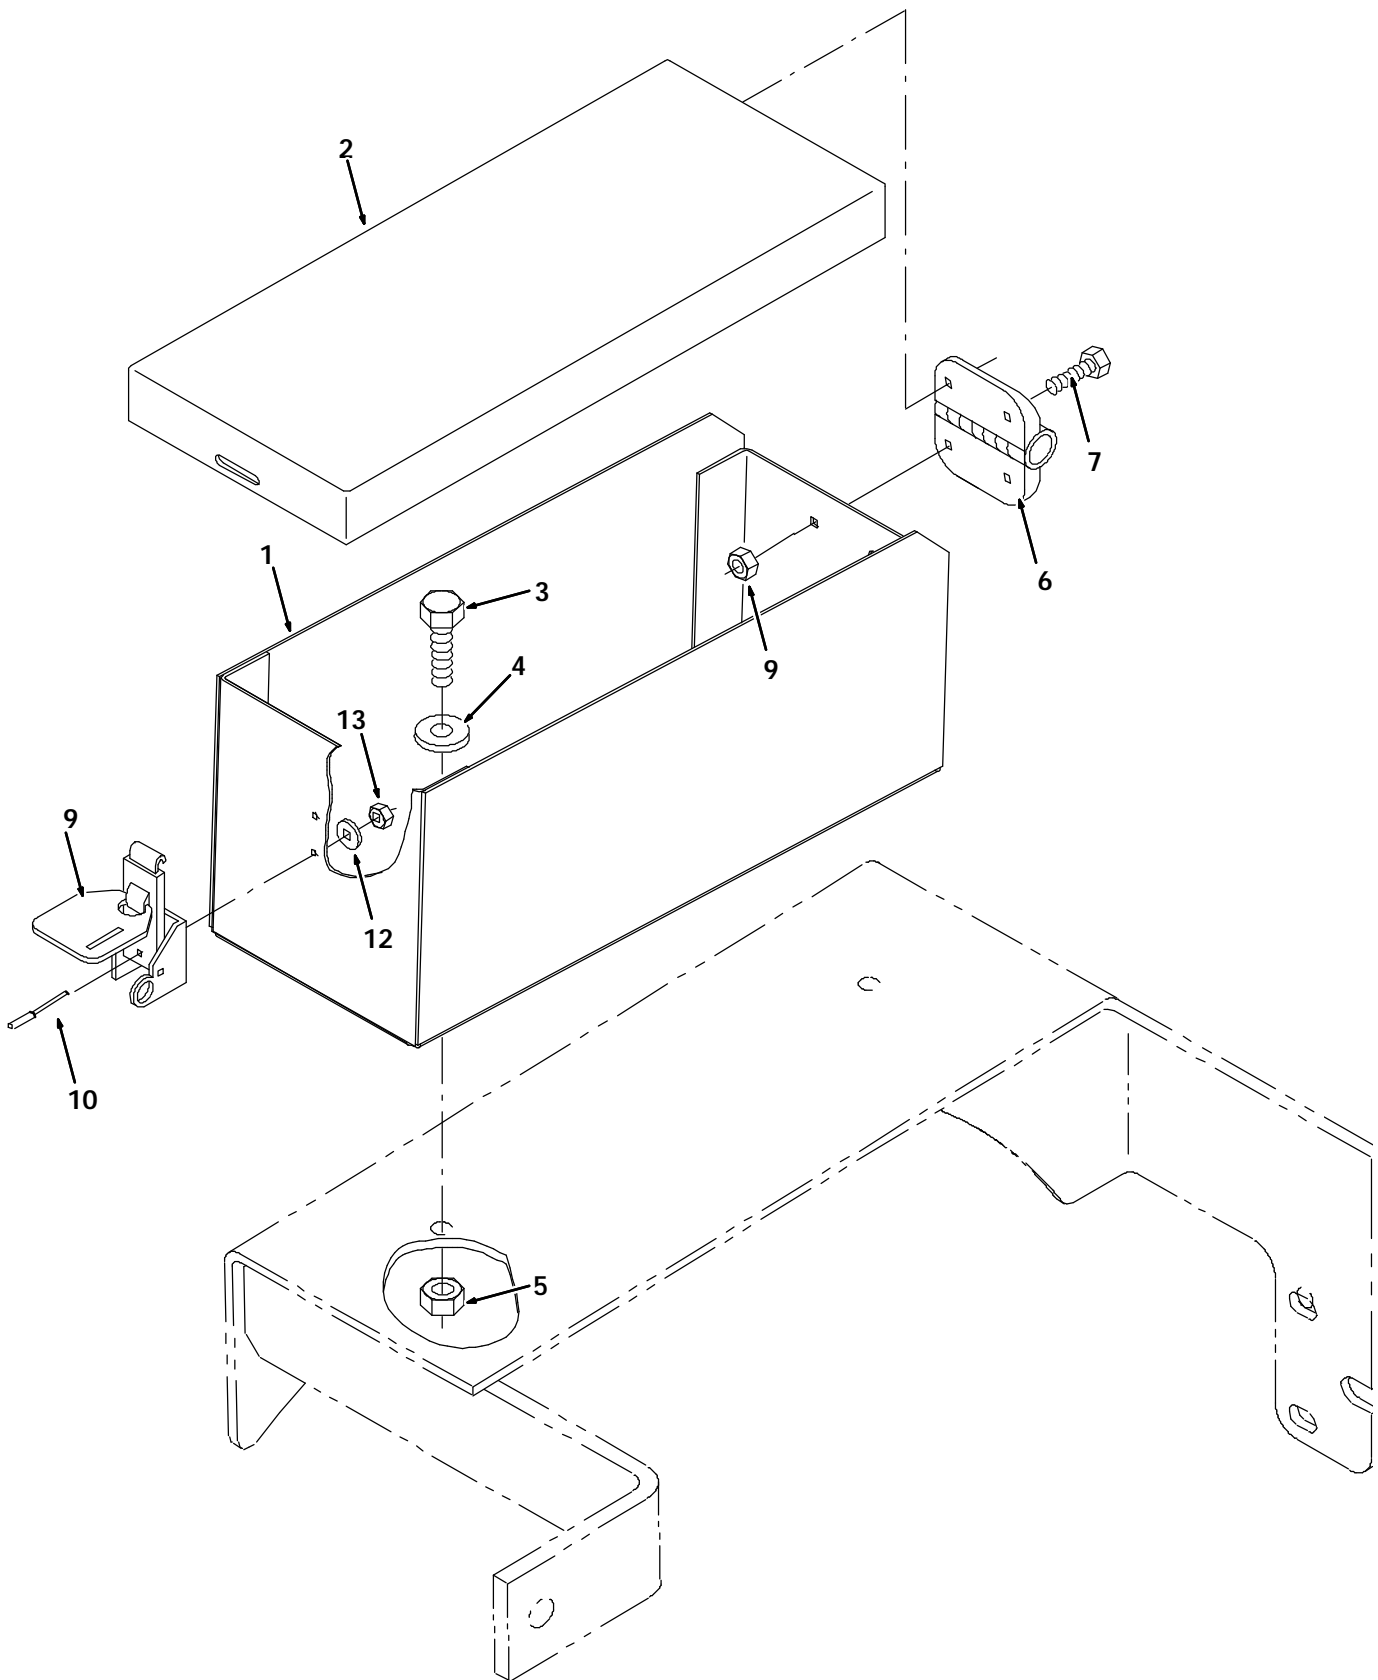

FIG. 1 -
(Refer to FIG. 1, 2 and 3)
1. Place tool chest box (1) on right rear fender, with hinge assembly mounting holes facing the front of the machine.
2. Center the tool chest box (1) on the fender front to rear and hanging out over the fender approx. .75in.
3. Using the tool chest box (1) as a template, mark the mounting hole positions on the fender.
4. Remove the tool chest box (1), and drill two .34in. (11/32) holes in the newly marked positions.
5. Mount the tool chest cover (2) to the tool chest box (1) with hinge assembly (6), pan screws (7), and locnuts (8). (Refer to FIG. 1, 2 and 3)
6. Mount the latch draw lock (9) to the tool chest box with pop rivets (10).
7. Mount the assembled tool box kit to the machine with hex screws (3), washers (4), and nuts (5). (Refer to FIG. 1, 2 and 3)